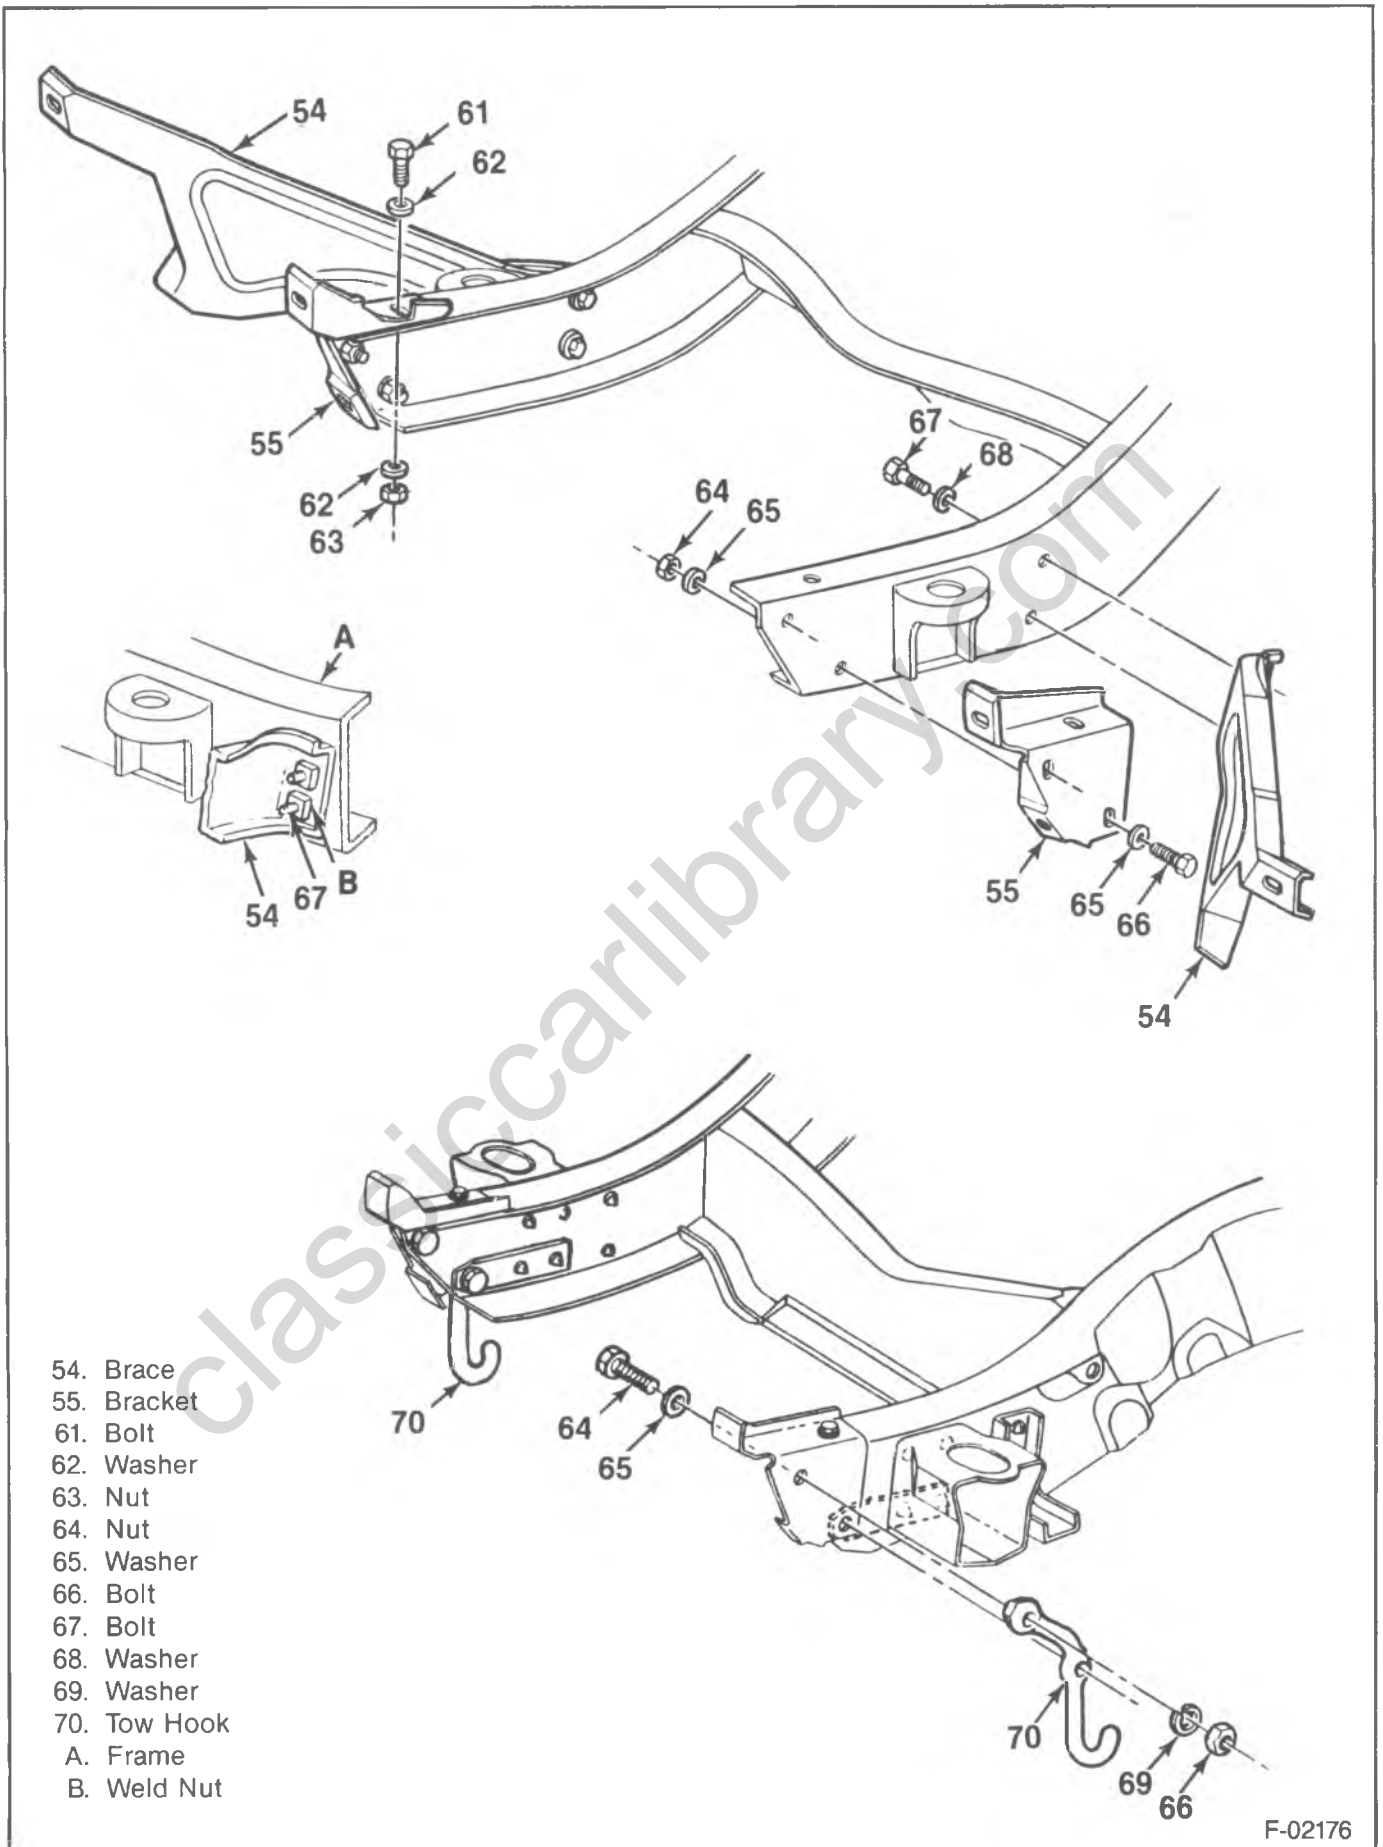

Figure 7—R/V Front Bumper Brackets, Braces, and Tow Hooks
7. Brace bolts and washers (67 and 68) (figure 7) from the inside of the frame rail.
- Braces (54).
9. Tow hooks (70) (where used).
10. Brackets (55).